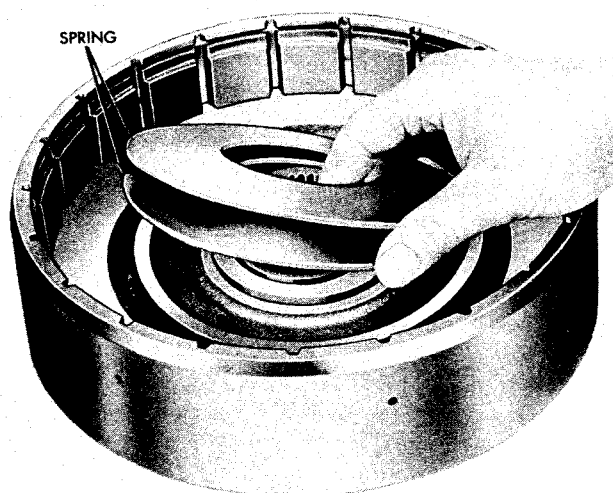

Fig XI-3. Removing or installing intermediate-range piston return springs
(2) Remove the intermediate-range piston return springs (fig XI-3).
(3) Install the intermediate-range piston return springs (fig XI-3).